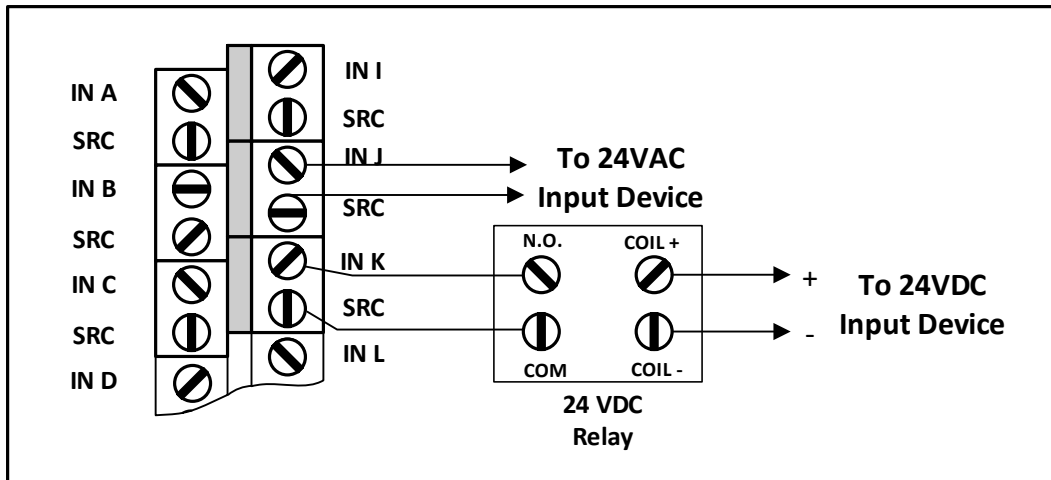

Figure 16: 24VAC and 24VDC Input Device Wiring
- If this is not an option, you can use Figure 16: 24VAC and 24VDC Input Device Wiring.